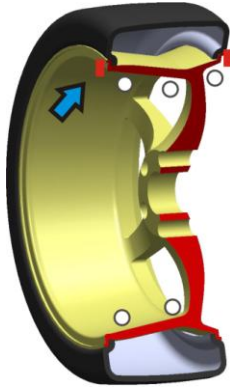

Fig. 4
4.1.7. Anticlockwise moving wheel slowly, until the left LED lit up full, clip weight on 12 o'clock position (**Fig.4**)